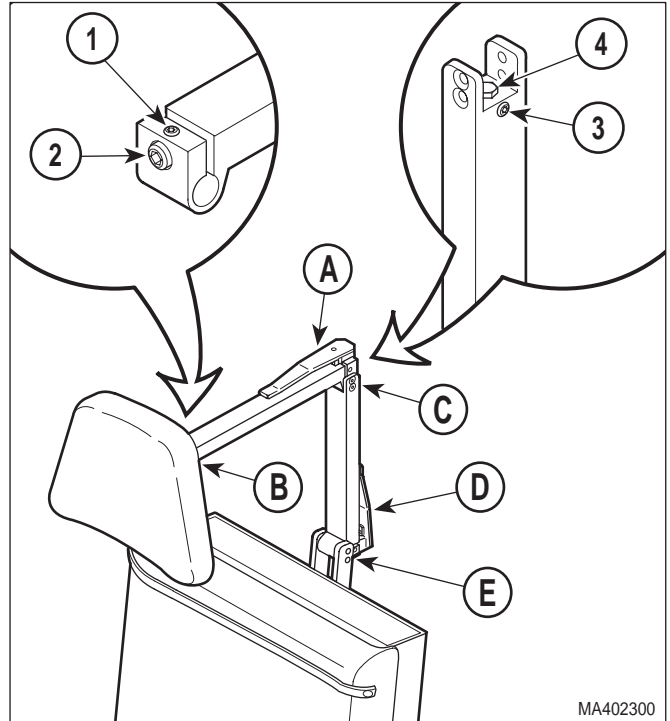

Figure 4-30. Headrest Adjustment
- (1) Unlock upper lock handle (See Figure 4-30).
- (2) Loosen setscrew (1, Figure 4-30).
- (3) Tighten adjusting screw (2) slightly; then lock upper lock handle (A). Repeat this step until axis 1 (B) and axis 2 (C) have the strongest possible holding power, but operation of upper lock handle is not too difficult.
- (4) Tighten setscrew (1).
- (5) Unlock lower lock handle (D).
- (6) Loosen setscrew (3).
- (7) Tighten adjusting screw (4) slightly; then lock lower lock handle (D). Repeat this step until axis 3 (C) has the strongest possible holding power, but operation of lower lock handle is not too difficult.
- (8) Tighten setscrew (3).